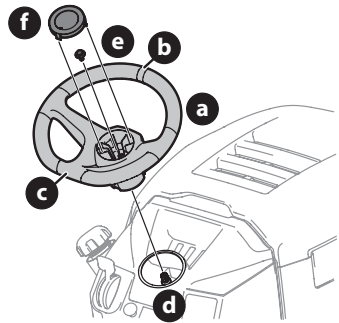

Fig. 14
- With the wheels of the tractor pointing straight forward, align the steering wheel (a) by using the center-line (b) on the front of the steering wheel (a) pointing straight ahead and the flat section (c) of the steering wheel (a) facing toward the seat, place the steering wheel (a) over the steering shaft (d) (Fig. 14).
- Secure the steering wheel (a) with the hex bolt (e) from under the steering wheel cap (f) and torque to 18-22 ft-lbs (24-30 N-m) (Fig. 14).
- Place the steering wheel cap (f) over the center of the steering wheel (a) and push downward until it "clicks" into place (Fig. 14).
NOTE: The hex bolt (e) securing the steering wheel (a) has thread locker applied to it, so if it is removed, it is recommended that the hex bolt (e) be replaced or thread lock re-applied (Fig. 14).